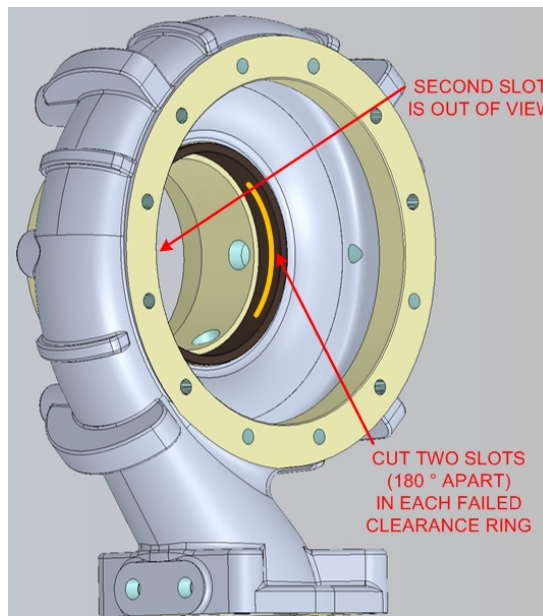

Figure 39. Slots Cut In Clearance Ring-Volute
- B. Using cutting wheel, cut two slots (180° apart - opposite each other) into failed clearance ring. See Figure 39.